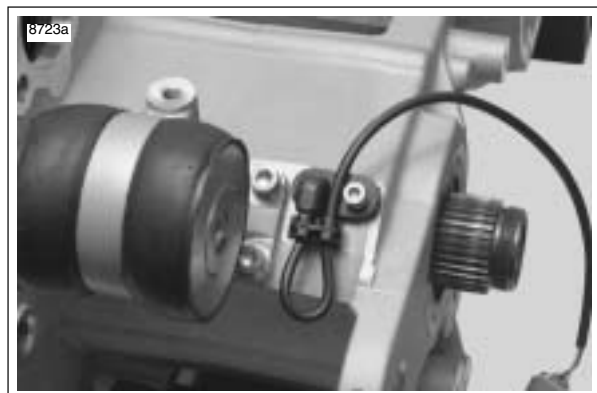

Figure 3-33. Rear Isolator and Mounting Hardware
1. See Figure 3-33. Install rear isolator assembly by installing the two rear fasteners first and then the two forward fasteners (re-install with **new** fasteners). Tighten to 25-27 ft-lbs (33.9-36.6 Nm).